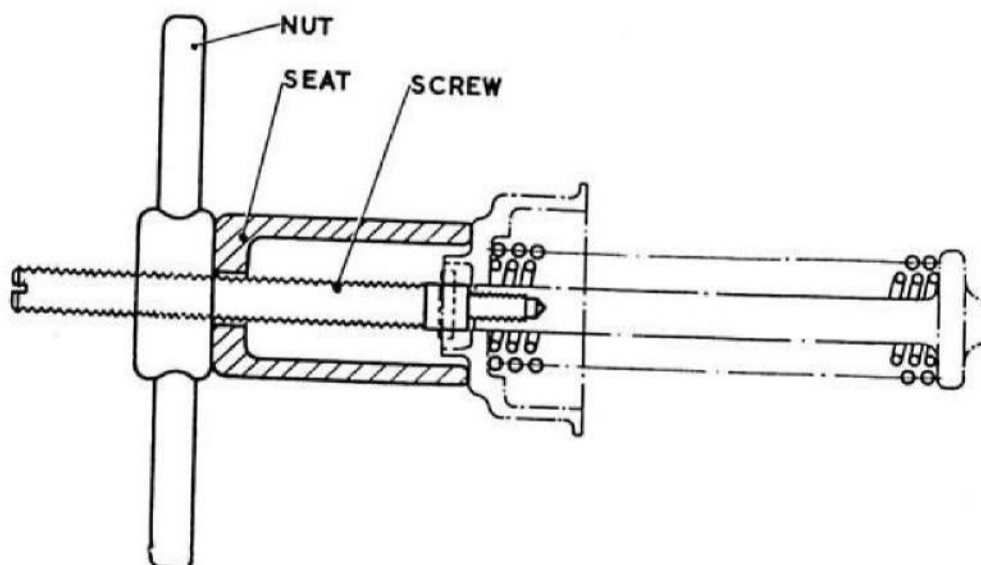

Fig. 3. Cocking tool (Venom/Vampire aircraft)
7. The special cocking tool (Stores Ref. 26DV/95252) is provided for re-setting the canopy jettison gun firing head and consists of a hollow, dome-shaped seat and a screw with a nut which has an integral tommy bar. The screw is a sliding fit in the head of the seat component and has a screw-driver slot at the outer end and a reduced section with a 2 B.A. thread at the other. The seat is proportioned so that it fits over the spring cap of the firing head (shown dotted in fig. 3).